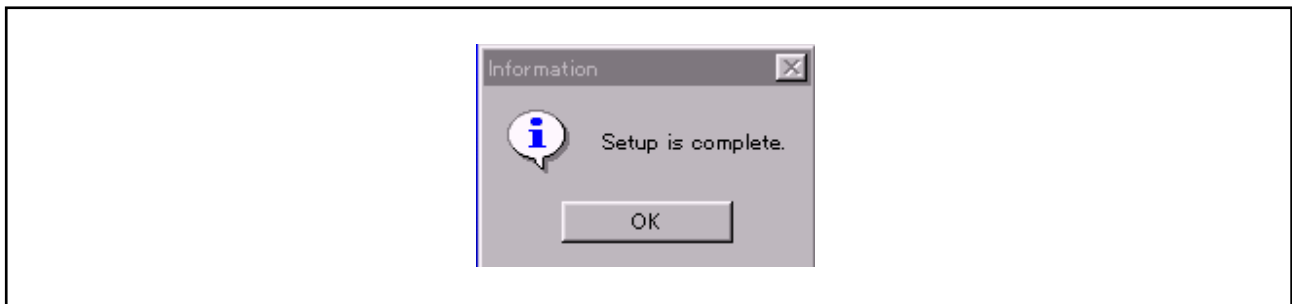

Figure 6.1 Dialog Box when Installation is Finished
- (1) Run pd32rmv301r00_e.exe that is included in the Eng \ Tool \ Pd32rm directory of the CD-ROM.
- (2) Proceed to install M3T-PD32RM following messages on the installation screen.
- (3) When you finished installing M3T-PD32RM, the dialog box shown in Figure 6.1 appears.